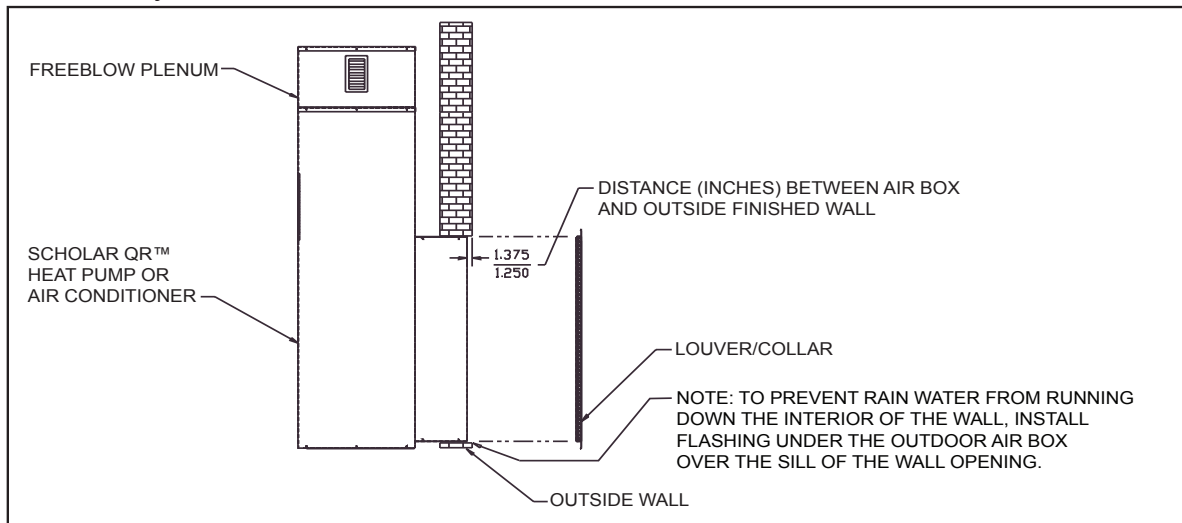

Figure 5. Dimension Between Scholar QR Heat Pump or Air Conditioner Air Box and Finished Outside Wall for Outdoor Louver/Collar Assembly Installation
- B. Be sure that the power to the line voltage wiring is off prior to hooking-up the wiring within the Scholar QR cabinet. Remove the lower front panel for access to the disconnect. Figure 5 illustrates the disconnect location with the lower front panel removed. Turn the disconnect to “OFF” position.
1. For Scholar QR units with a remote (wall mounted) thermostat, route the low voltage wiring from the point of entry into the cabinet, upward through the raceway adjacent to the disconnect shown in Figure 5.